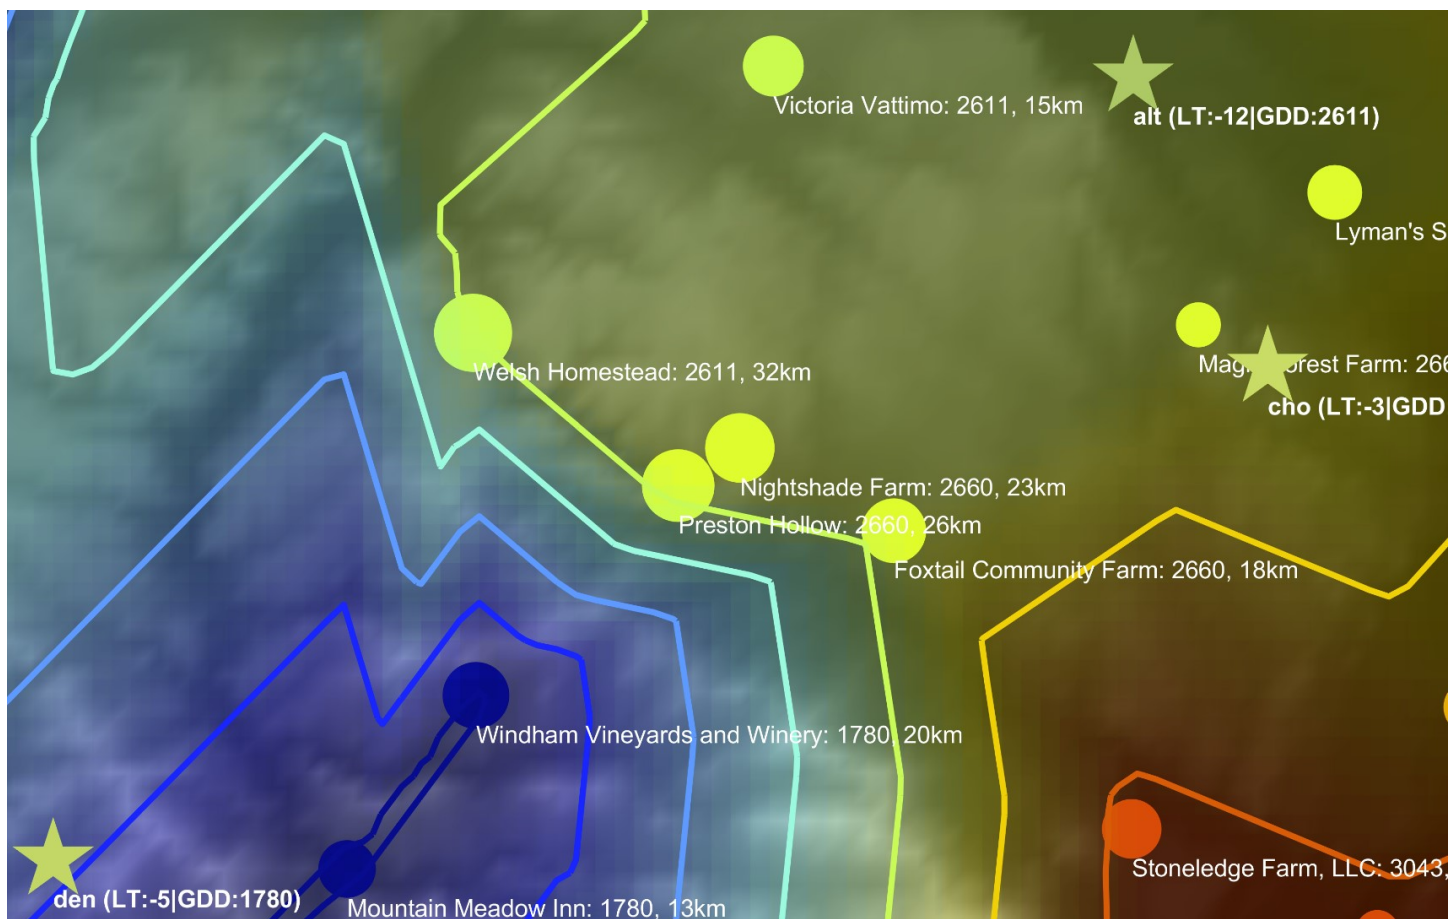

**Figure 2 - Example of poor spatial coverage of weather stations in a cluster of farms that appear to share similar topography**
**Figure 2** illustrates an example where 14 farms are relying on the same weather station, despite being as far away as 19 kilometers from the station. Notice that the circles are larger the farther away the farm is from the 'hud' NEWA station. Also note that the 'red' station was not used because it has too much missing data and is erroneously underreporting GDDs.
Given the apparent lack of topographical differences among the farms in Figure 2, one might argue that there is a good chance that the local conditions are very similar at each farm. If any of these were my farm, I still would want my own weather station. Are all fourteen of those farms really experiencing the same conditions and subject to the same low temperature events during winter? In this particular example, I am aware of at least one new NEWA station coming online soon in the northeast corner of the cluster. It will be interesting to see how that new source of data ultimately alters the appellation contours.